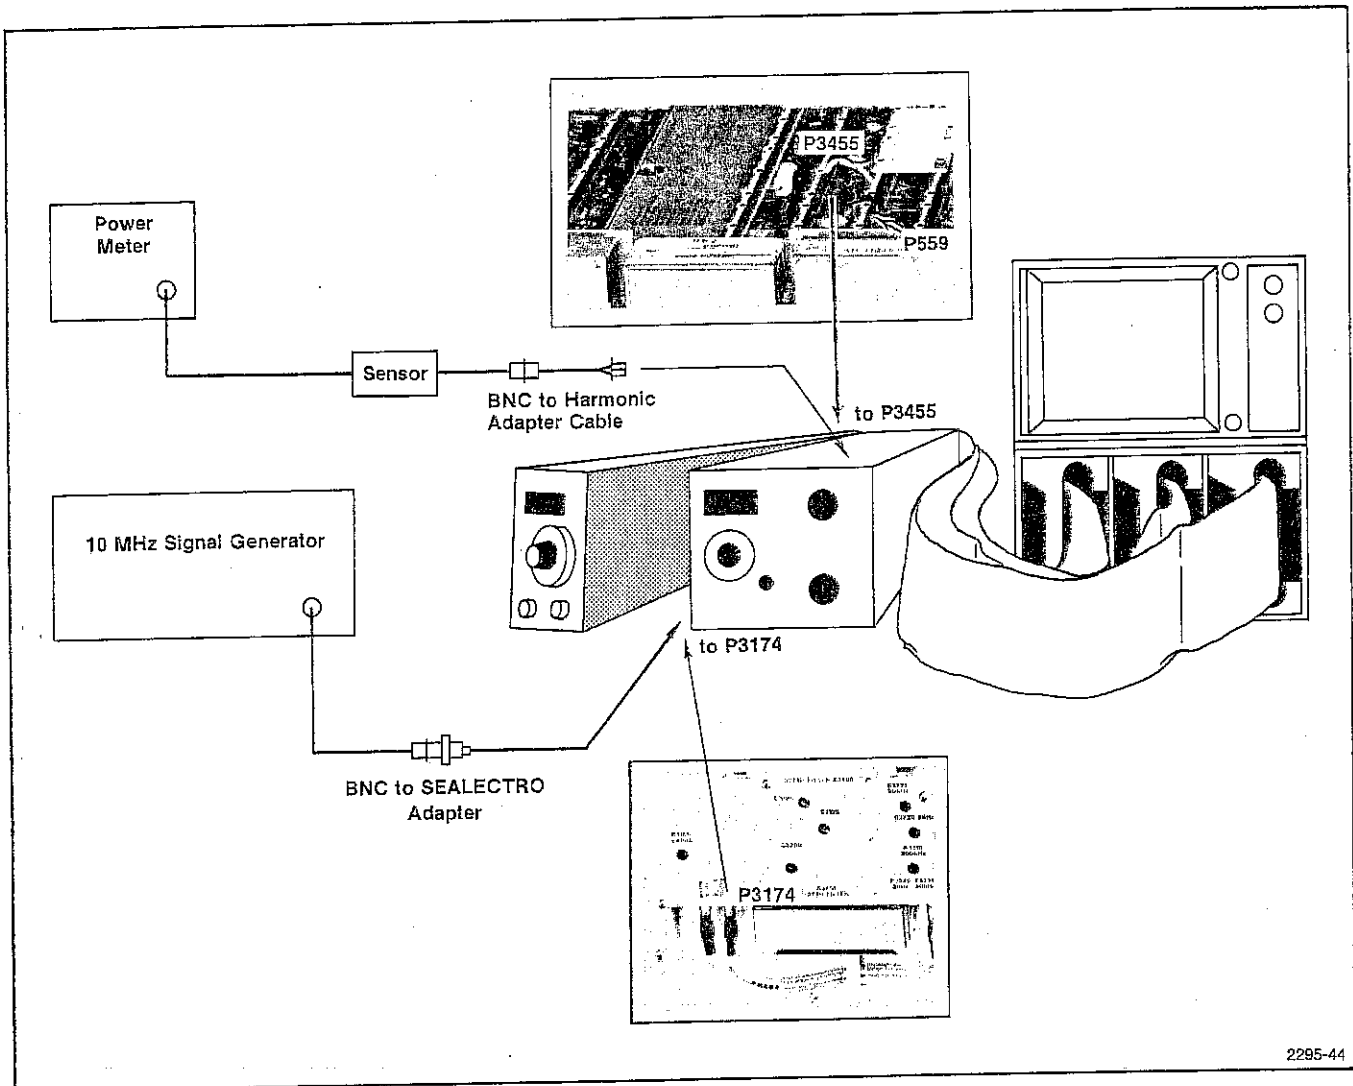

Fig. 4-36. Test Setup for Calibrating VR Circuits.
- a. Test equipment setup is as shown in Fig. 4-36.
- c. Disconnect P3455 from the output of the VR Noise Filter (see Fig. 4-36) and connect a power meter (i.e., HP 435A/8489A) to connector J3455. (Use a bnc-to-harmonic adapter such as that described for Adjusting Log Amplifier
module.) Disconnect P3174 (cable is input to 300 Hz Filter, see Fig. 4-36 or 4-37) on the VR module. Apply a 10 MHz, -10 dBm signal, from the signal generator, through a coaxial cable and bnc-to-male Sealelectro adapter to the cable plug, P3174.